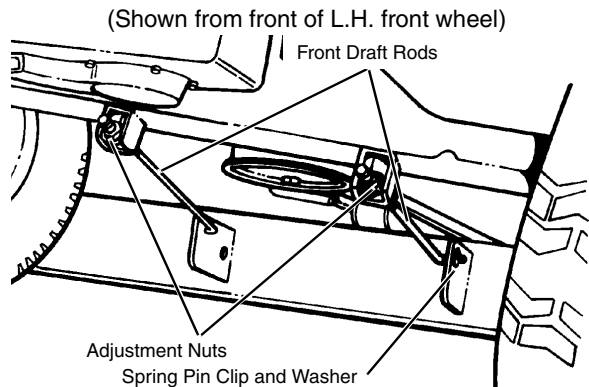

FIG. 33
- Remove spring pin clips and washers from two mower draft rods at front of deck. (See FIG. 33)
- Attach draft rods to front of deck with washers and spring pin clips. (See FIG. 33)